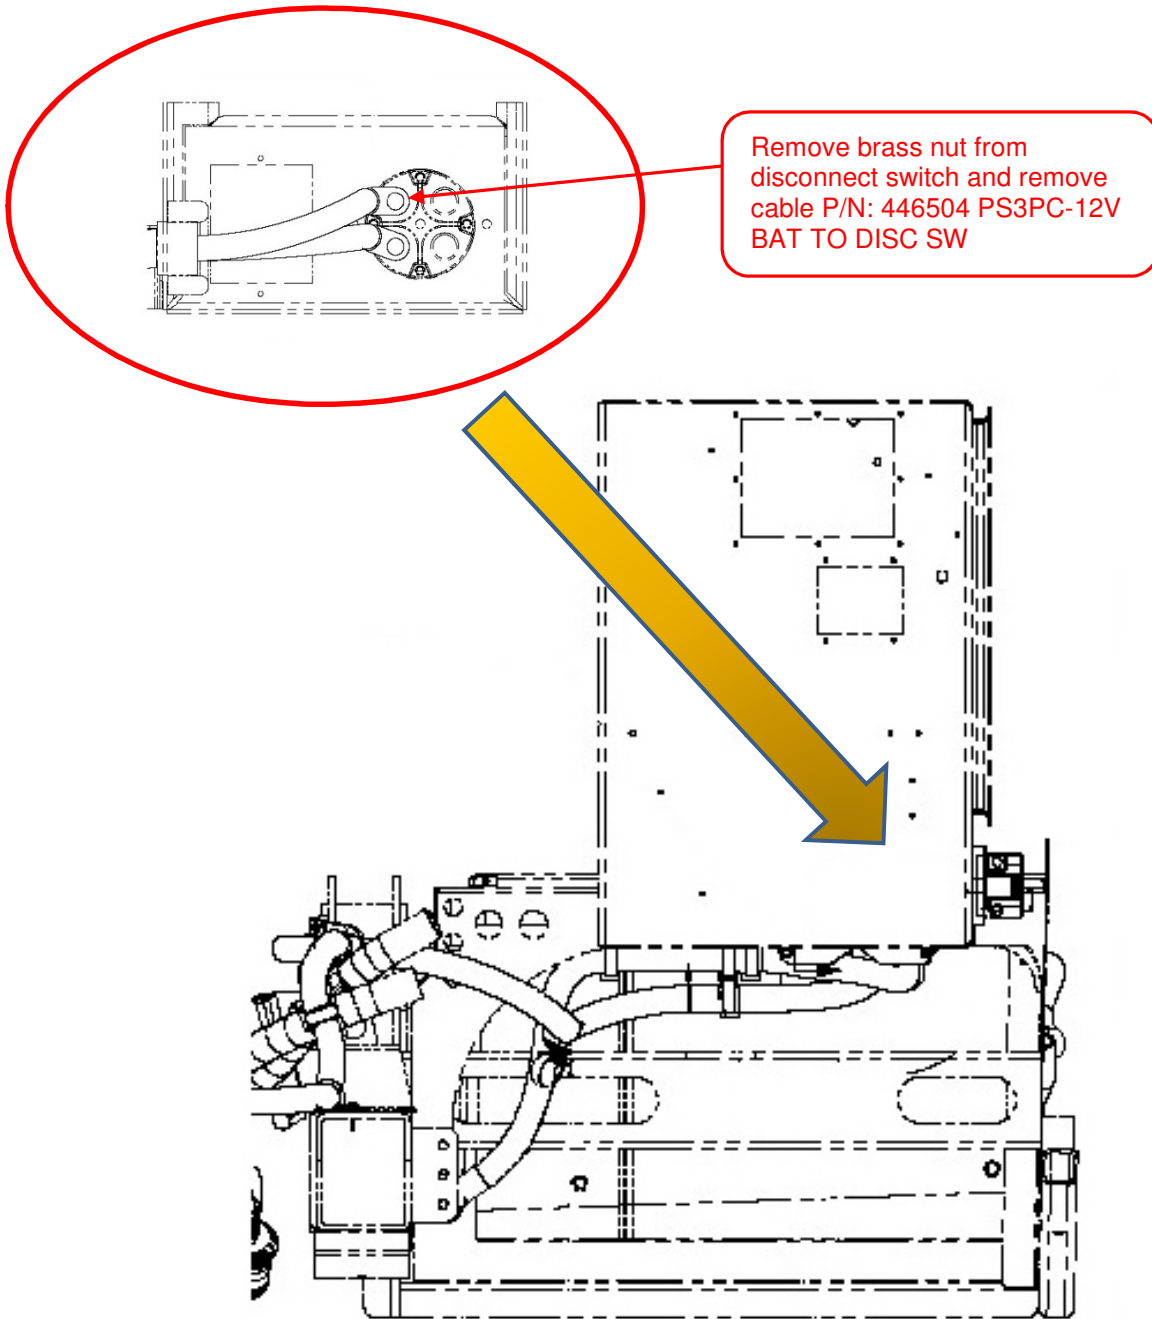

Figure 2: Disconnect Switch
3. Gain access to disconnect switch terminals. Refer to Figure 2.